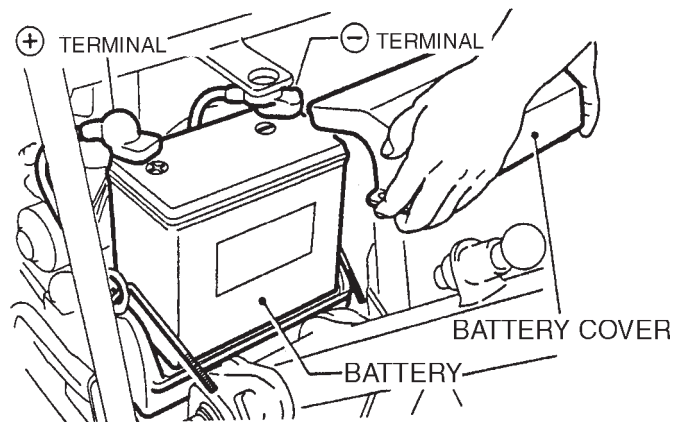

Figure 30. Battery Maintenance
1. Take off the battery cover by removing the M6 nuts (Figure 30).
2. When removing cable, disconnect the ground side (normally negative) first (Figure 30).